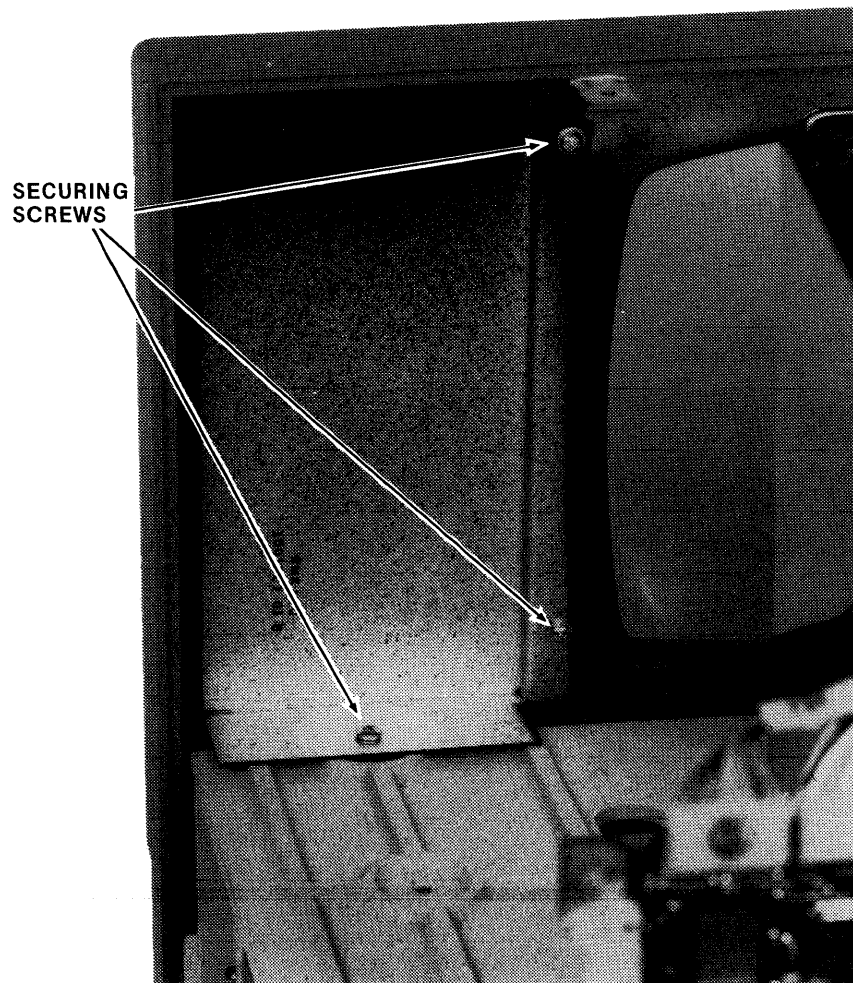

Figure 4-13. MDS-230 Blank Panel Removal
6. Remove the blank panel on the front of the chassis. Figure 4-13 shows the three screws attached from the rear.